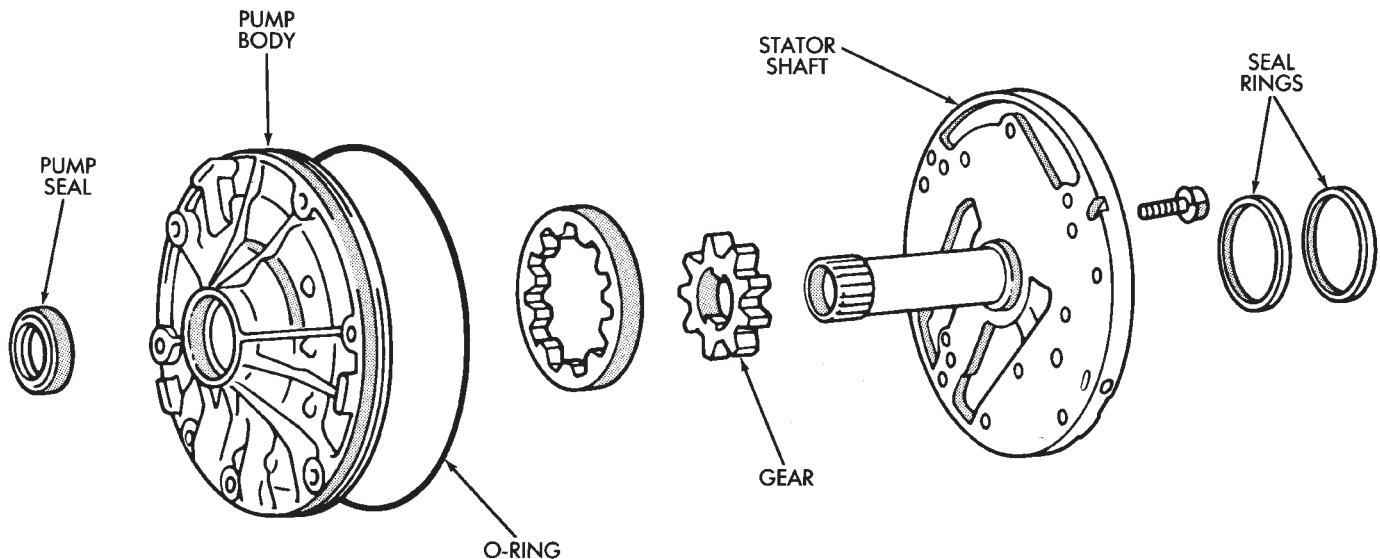

Fig. 1 Oil Pump Components
- (1) Remove pump body O-ring (Fig. 1).
- (2) Remove pump seal rings (Fig. 1).
- (3) Remove bolts attaching stator shaft to pump body and separate components.
- (4) Remove drive gear and driven gear from pump body (Fig. 1).